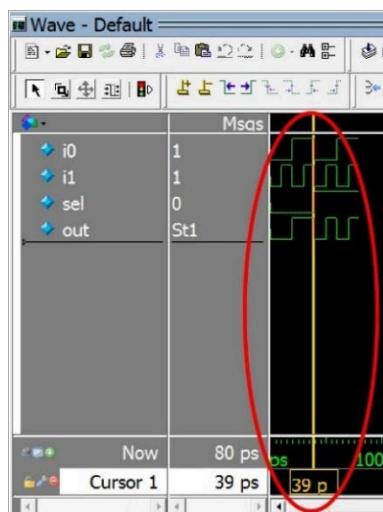
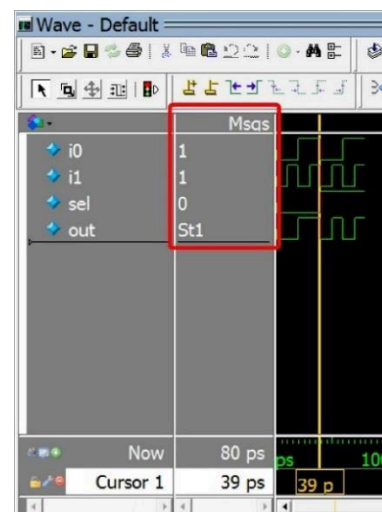

Figure 7: You can move the cursor (yellow line) within the waveform viewer (black background) of the Wave pane.
Figure 8: The values in the Msgs column will automatically update as you move the cursor.
- **View signal values in the Msgs column:** Left-click anywhere within the waveform viewer (the part with the black background) to move the cursor, which is the yellow vertical line with the time in yellow at the bottom (Figure 7). The Msgs column will update with the signal values at the time specified by the cursor (Figure 8).